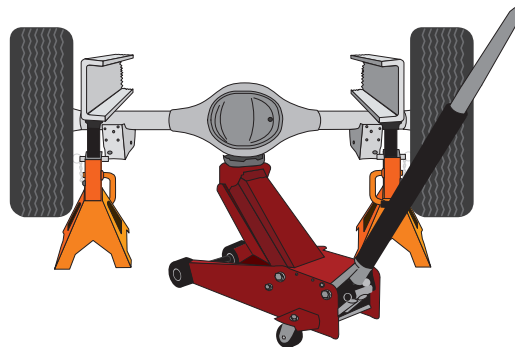

fig. 1
1. Jack up the rear of the vehicle or raise on a hoist. Support the frame with safety stands (Fig. 1).